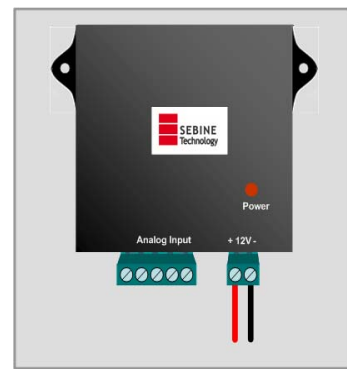

Figure9. Power Supply-3
- As shown in Figure 9, connect the terminal to power port of W210A, Make sure the direction is exact as shown in Figure 9.